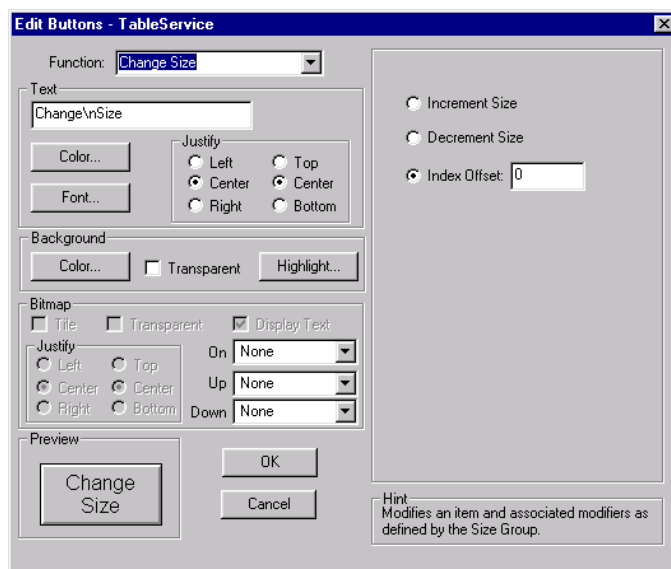

Figure 5-77 Change Size Button Function
1. Select **Change Size** from the **Function** drop-down list. Additional options display, as shown in Figure 5-77: